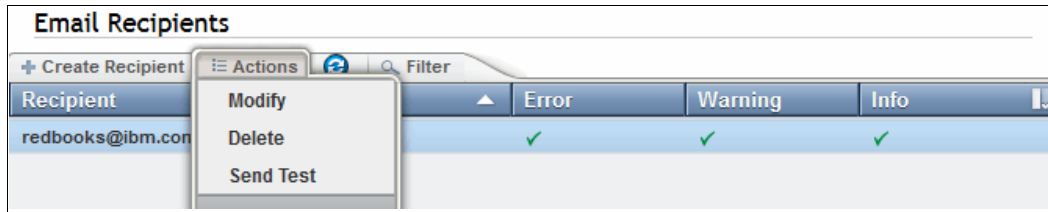

Figure 4-32 Email Recipients Actions menu
5. After a recipient is created, you can then modify the user, delete the user, or send a test email to the user from the **Actions** menu, as shown in Figure 4-32 on page 222.